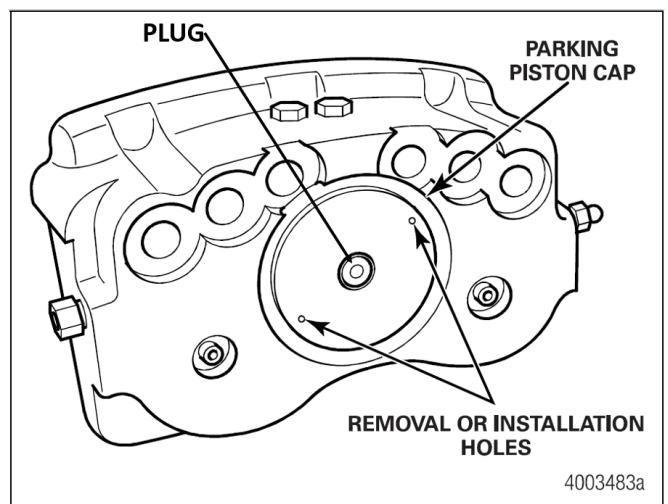

Figure 3.2
1. Use a suitable hex wrench to remove the plug from the center of the parking piston cap. Figure 3.2.